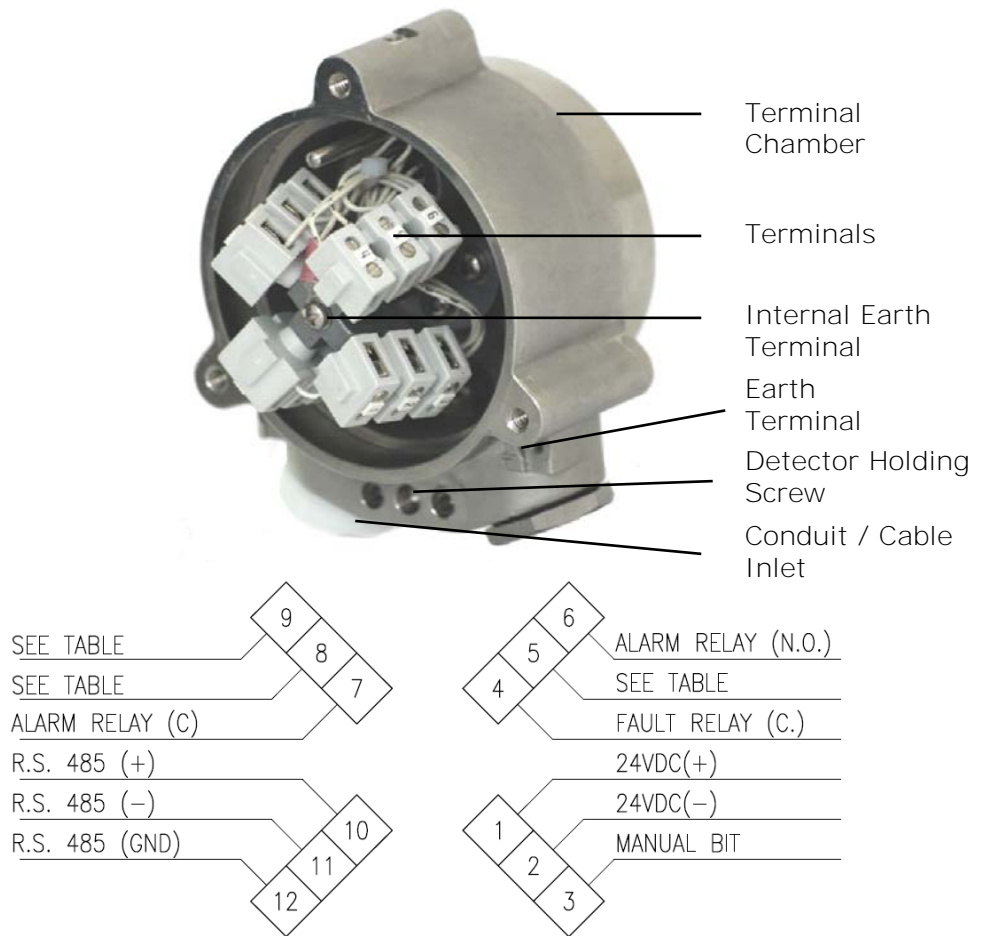

Figure 7: Detector with Cover Removed
This section describes how to connect the electric cabling to the detector (Figure 7).
- 5** Connect the wires to the required terminals on the Terminal Board according to the wiring diagram (Figure 7) and Table 14.
- 8** Check the wires for secure mechanical connection and press them neatly against the terminal to prevent them from interfering while closing the back cover (Figure 7).